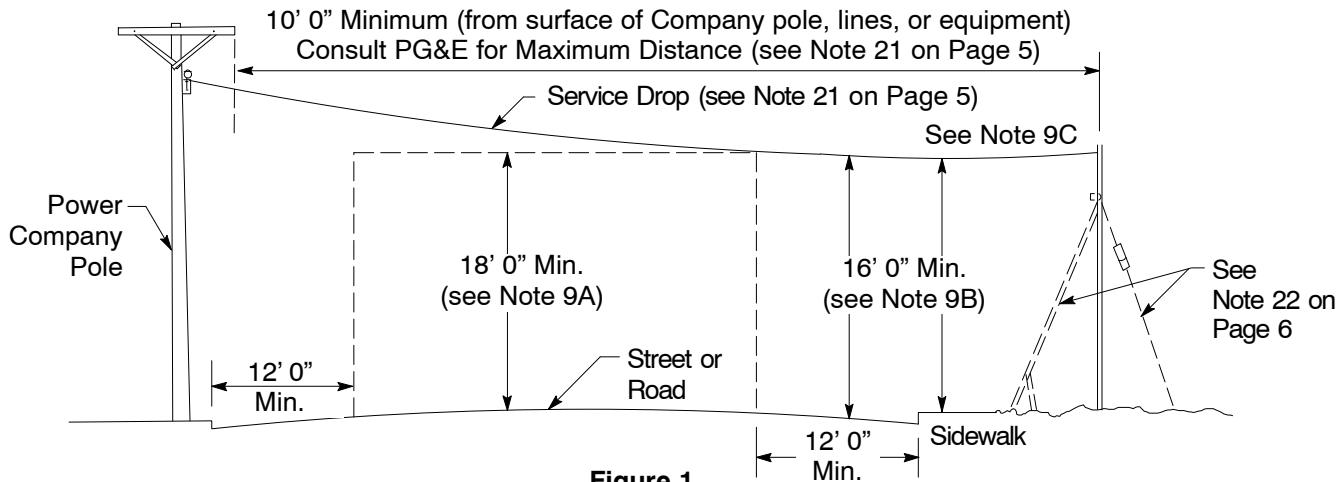

Figure 1
21. Poles must be located so that the vertical clearances specified in Note 9 and Figure 1 on Page 4 can be obtained. A service pole must not be located less than 10 feet from the surface of the PG&E pole, or pole-mounted equipment, or within 10 feet of the vertical plane of a PG&E line.